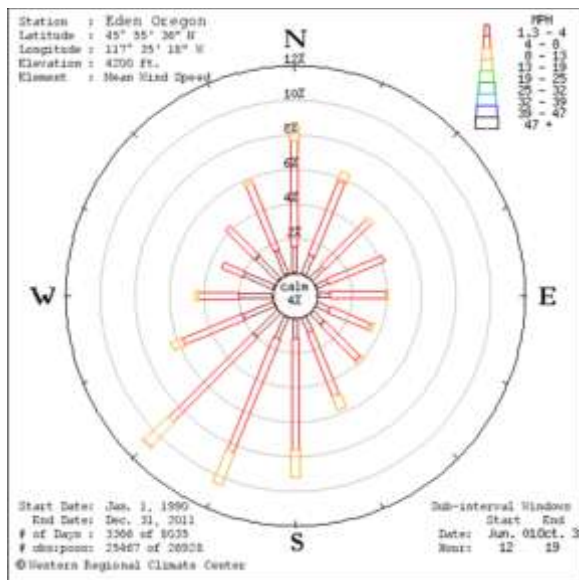

Figure 3-31—Wind rose for June 1 to October 31 from noon to 1900 using WRCC hourly data.
- i) Look at the wind rose (fig. 3-31) how does it compare to the one created in FFP? The south to southwest winds are still the most frequent, but with this data winds out of the southwest are more prevalent and stronger than out of the south.